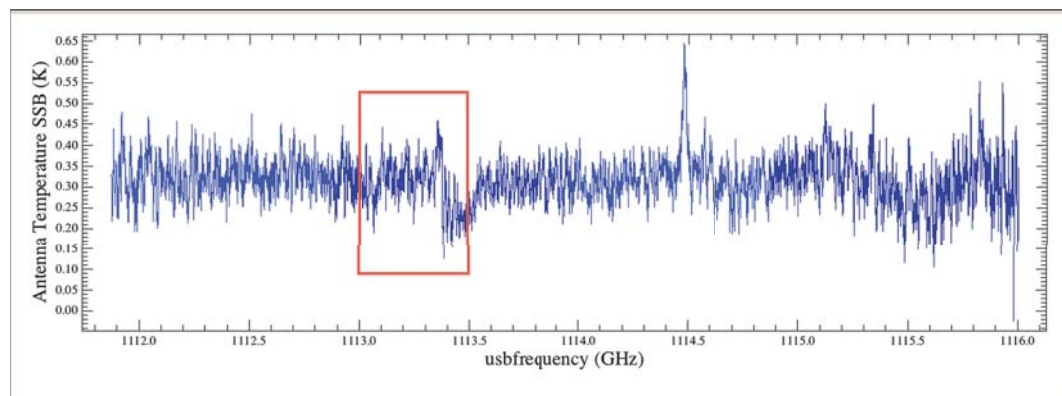

Figure 11.5. Selecting a region of the spectrum
- Using the left-click again, click and drag a box around the region to be flagged. Take care to completely enclose all the points you wish to flag (see Figure 11.5).